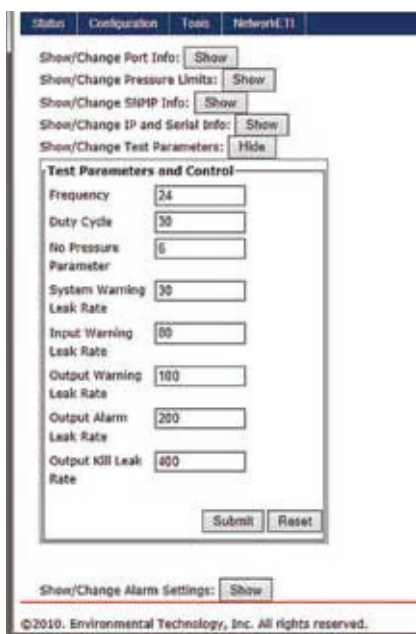
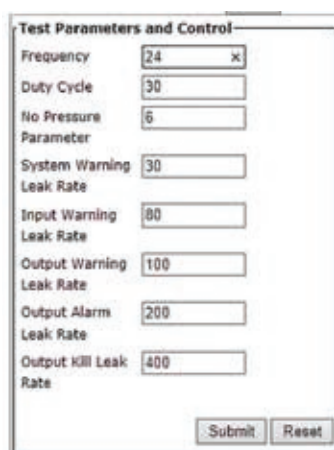

FIGURE 21a. Test Parameters Page.
FIGURE 21b. Test Parameters Help Screen (for "Frequency")
12. From the Configuration Page, click the “SHOW” button next to the “Show/Change Test Parameters” to select and access Test Parameters (Figure 21a). Every field on that page has a help screen explaining the meaning of each, its applicable unit of measure, and the factory default value (Figure 21b). It is not necessary to make any changes to the default values on this page, although some parameter settings might need to be adjusted slightly if the system fails the test procedure.